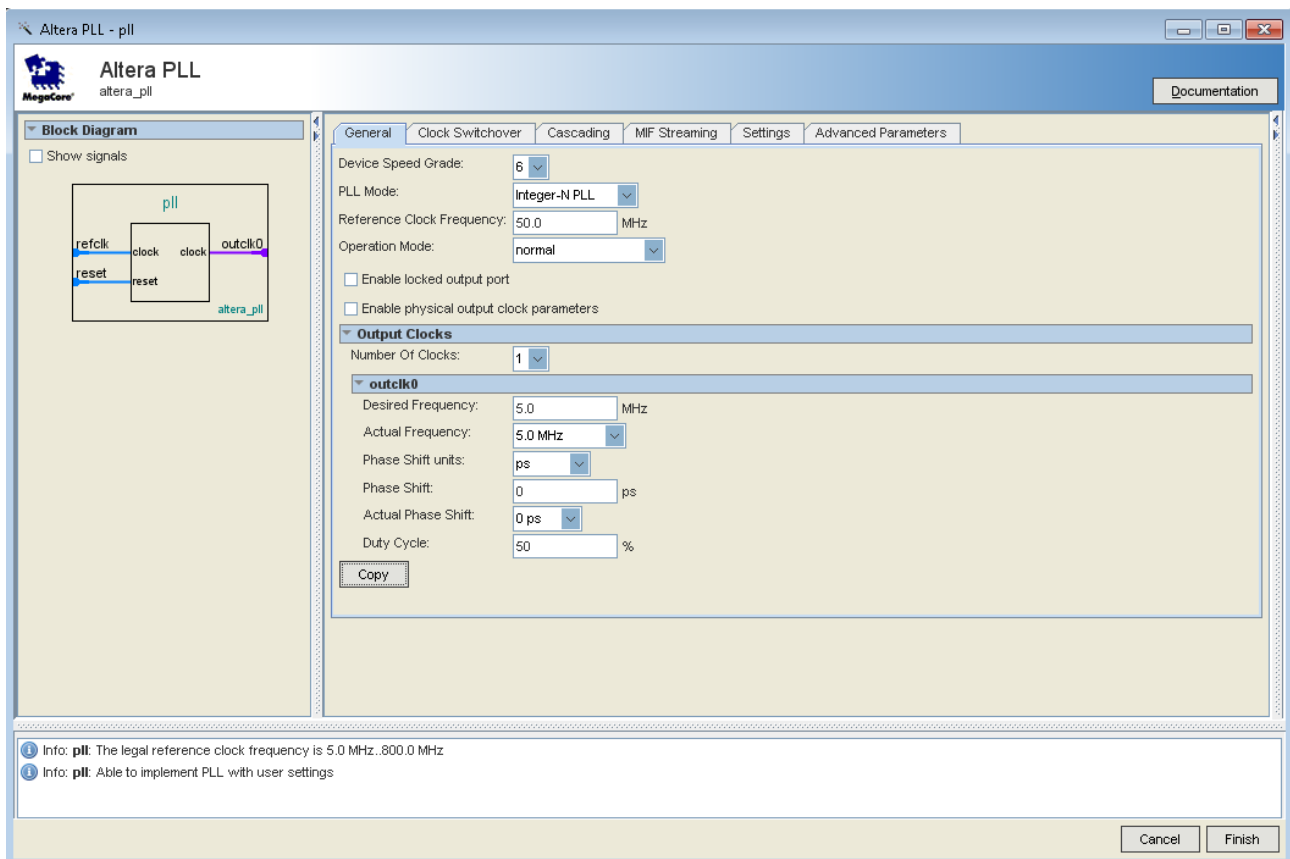

Figure 3-12 MegaWizard Plug-In Manager Selections
7. Then, make the following selection (see Figure 3-12).